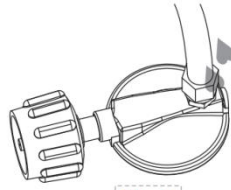

Fig. 1
- Use a spray bottle or brush to apply several drops of solution where the hose attaches to the regulator (Fig. 1).